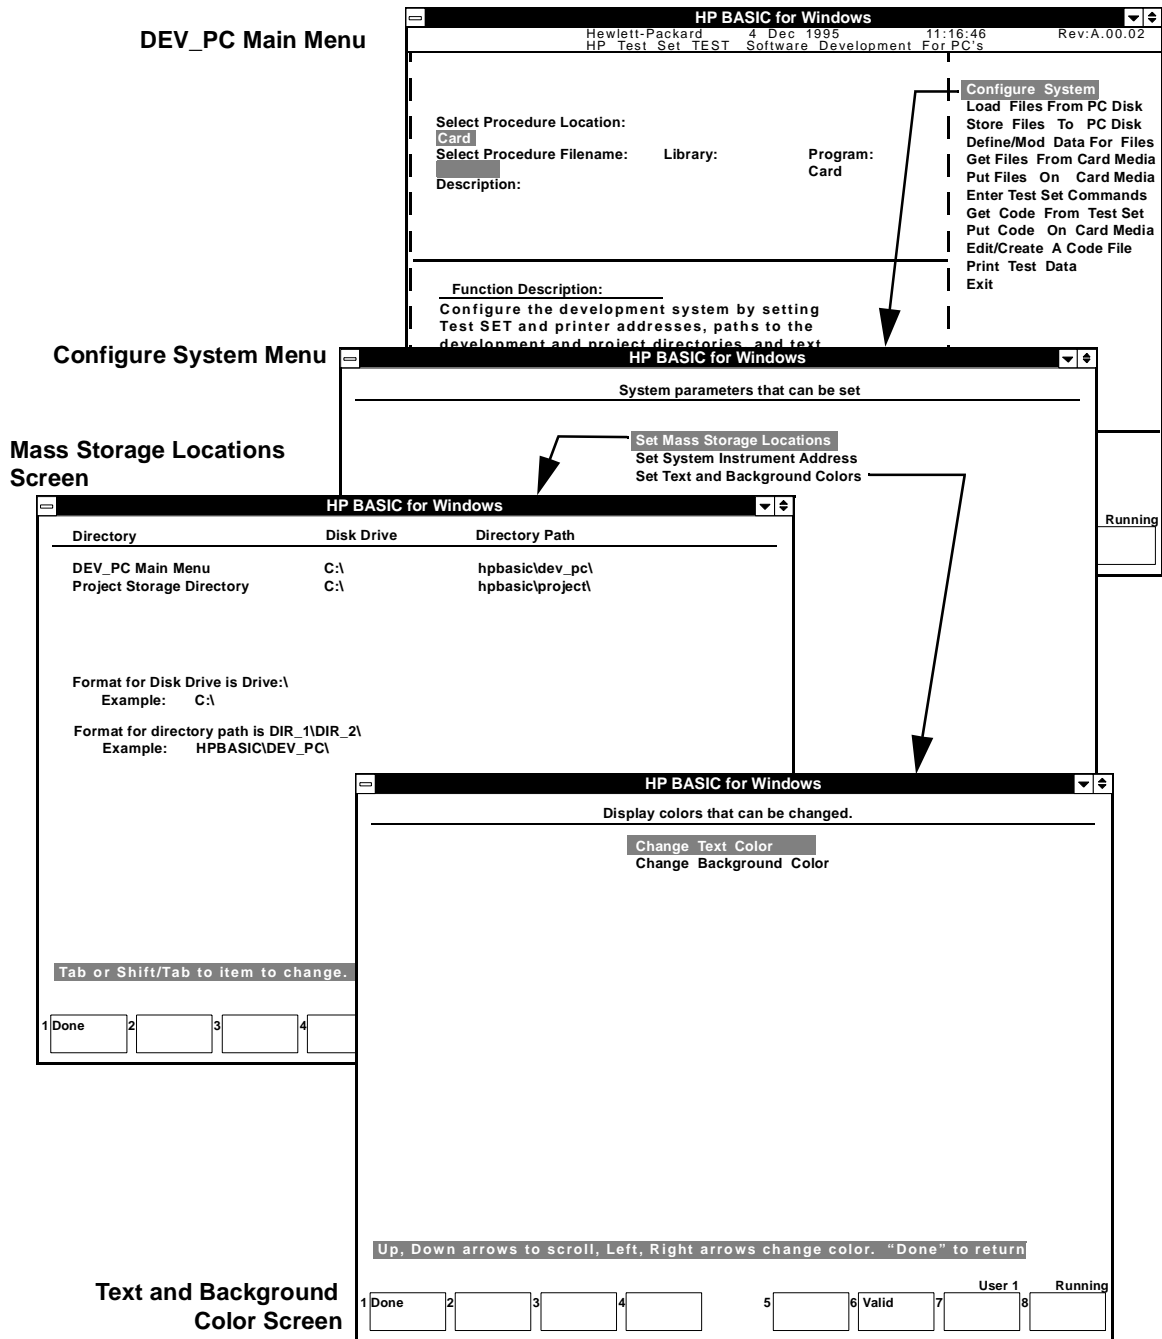

Figure 4 Configure System Functions
4. Select the 3 softkey to run DEV\_PC. The DEV\_PC main menu is displayed on your PC monitor. See figure 4, "Configure System Functions," on page 21.
8. You may then want to change the default colors of the DEV\_PC screen by selecting the **Set Text and Background Colors** function of the Configure System menu before exiting back to the main menu, see figure 4 on page 21.